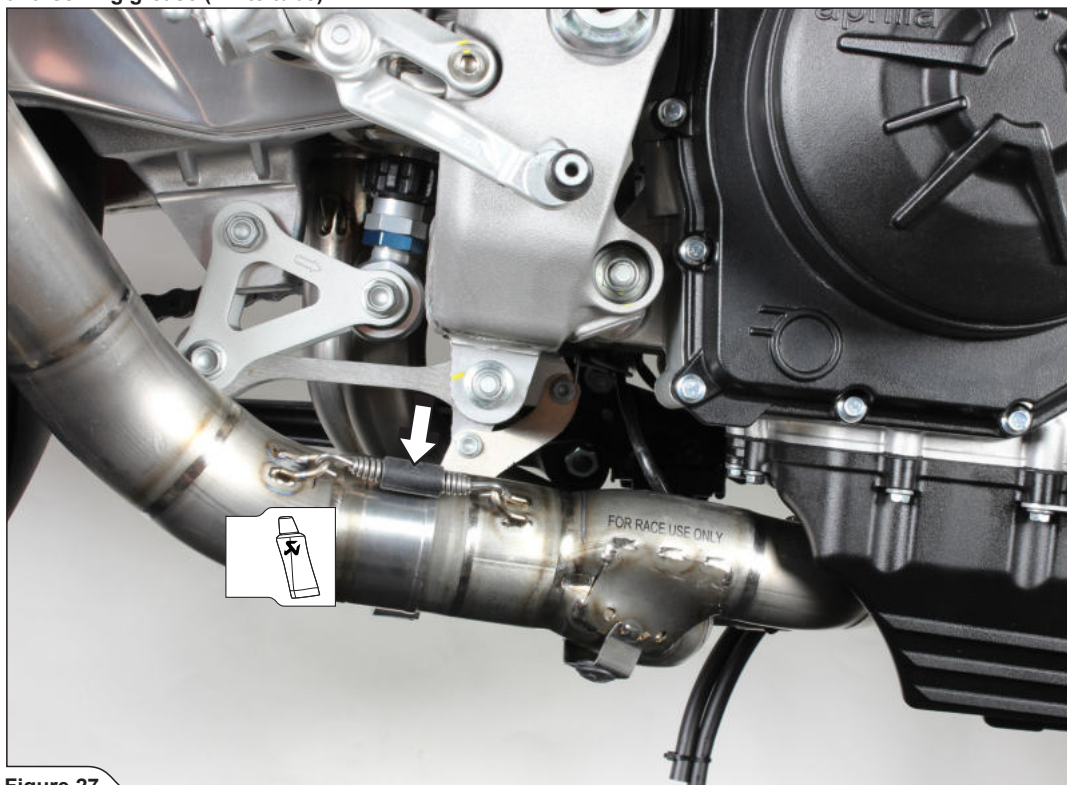

Figure 27
10. Slide the link pipe onto the collector's outlet and attach the spring (Figure 27).